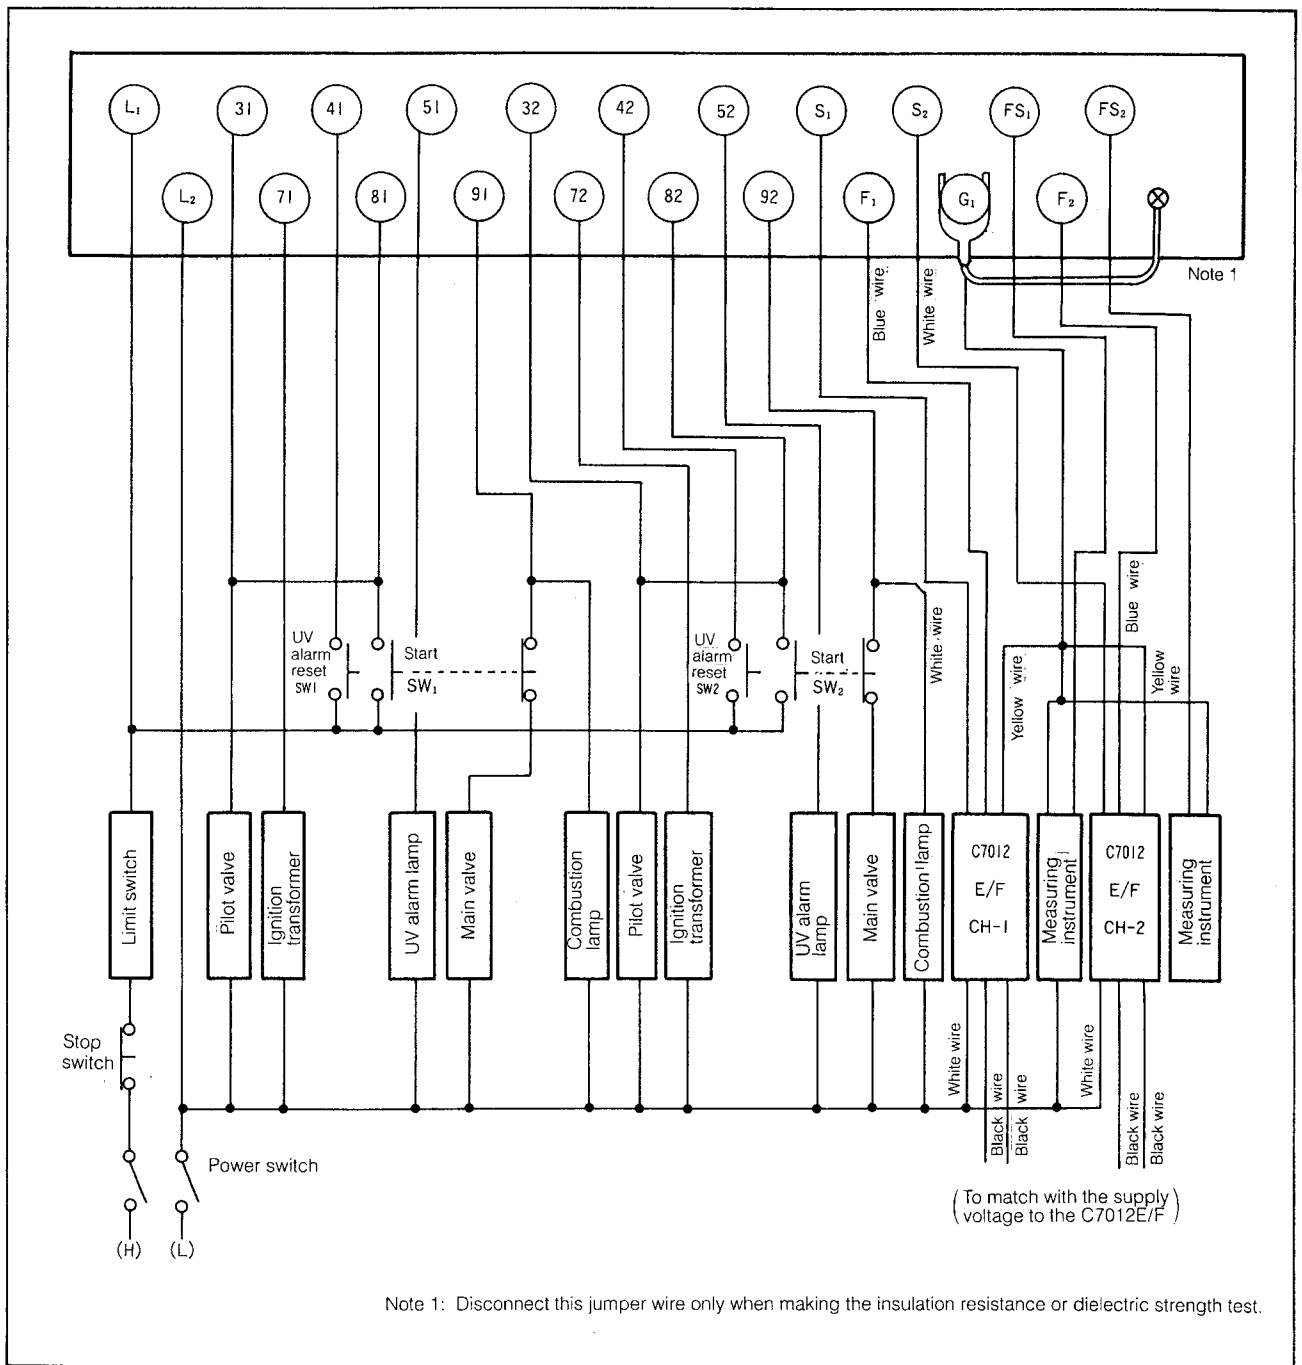

Fig. 4 R4332B (2ch) External Wiring (Example of individual manual ignition system)
- Perform wiring for the 2-burner R4332B according to Fig. 4.
- Wiring diagram (Fig. 4) shows an individual manual ignition system. The stop switch is used to stop all channels.